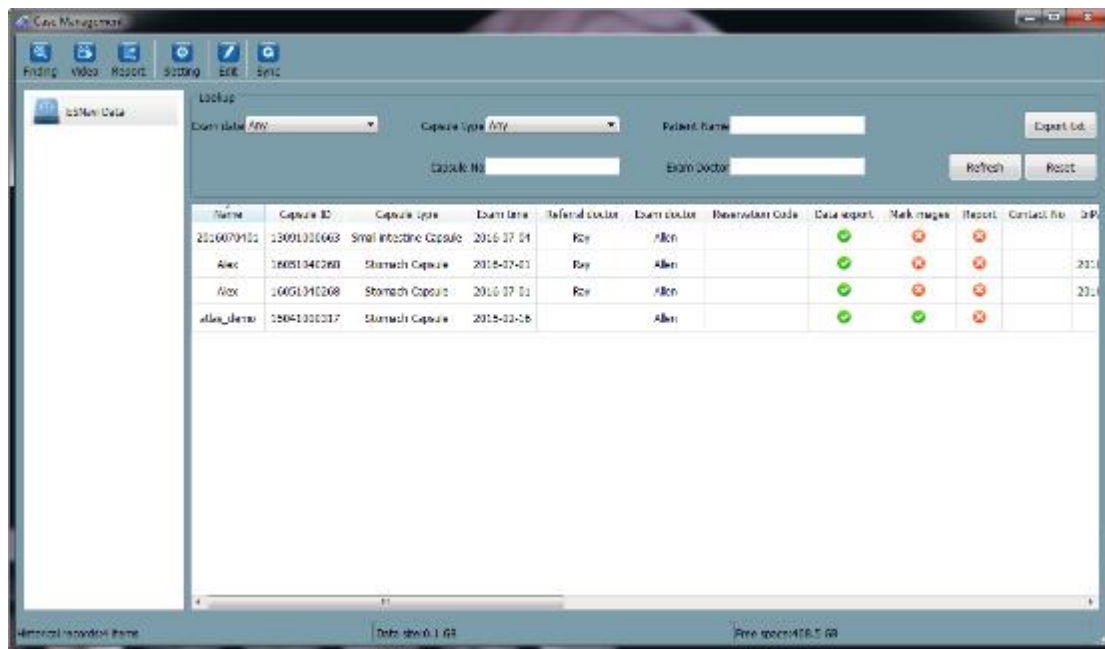

Figure 4- 116 Case Management Interface
- The program will automatically add the data export path when access the Case path Management interface as shown in Figure 4- 116 for the first time. Click